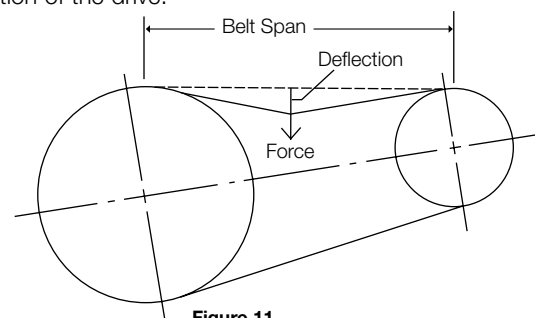

Figure 11
- Step 1. Install the belt as per Steps 1 and 2 of the General Method. Measure the span length (in inches) as illustrated in Figure 11.
- Step 2. From Figure 11 determine the deflection height required for the drive. The deflection height is always 1/64" per inch of span length. For example, a 32" span length requires a deflection of 32/64" or 1/2". To measure the deflection height place a straightedge from sprocket to sprocket on top of the belt or wrap a string or steel tape around the sprockets on top of the belt. This will serve as a reference line to measure deflection inches.
- Step 4. Using a spring scale, apply a perpendicular force to the belt at the mid-point of the span as illustrated in Figure 11. NOTE: For belts wider than 2 inches, it is suggested that a rigid piece of keystone or something similar be placed across the belt between the point of force and the belt to prevent belt distortion. Compare this deflection force value to that found in Step 3. Adjust belt tension accordingly.